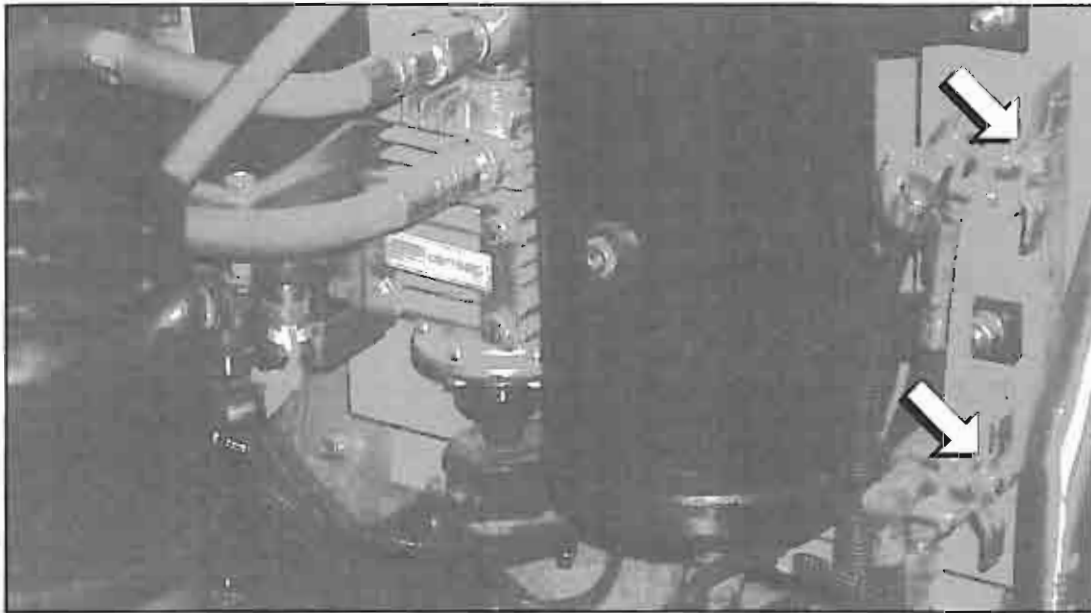

Figure 2.
*The tag axle should be lifted only when the tag axle's suspension air bellows are exhausted. Close the tag axle suspension shut-off valves, located in the RH, rear service compartment ( Figure 2 ).*